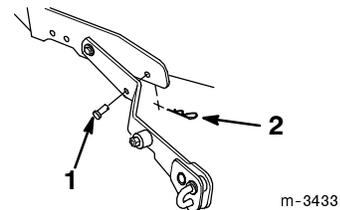

Figure 1
4. Install a 3/8 x 1 inch clevis pin into each side of the lift assembly in the positions shown in Figure 1.